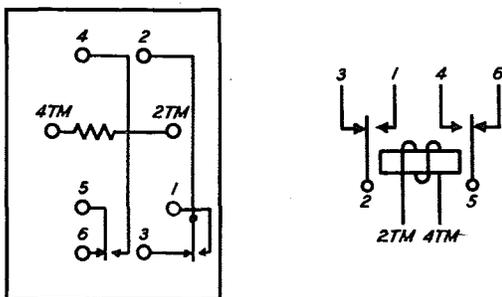

FIG. 41 - WINDING AND SPRING TERMINAL ARRANGEMENT (TERMINAL SIDE) - KS-5350 AND KS-5451 RELAYS HAVING FOUR HORIZONTAL ROWS OF TERMINALS
2.60 The contacts in any vertical row of terminals number from the top down beginning with 1 in the right row of terminals, except that where the top terminal in this row has a letter designation, in accordance with 2.61, 2.62 and 2.63 the number 1 is applied to the terminal directly below it, if any. (See Fig. 41)
2.63 Where the relay has either four or six horizontal rows of terminals the upper middle row of terminals is designated by the letters TM preceded by the same number as the nearest terminal above. (See Figs. 41 and 45)